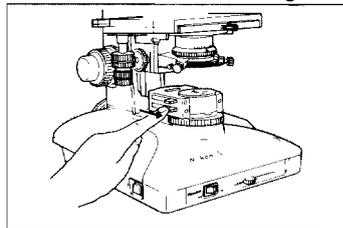

Fig.3-2
- 2) Slide the filter insertion / removal knobs of the ND filter cassette to the limit to place the entire ND filter in the optical path (Fig. 3-2).